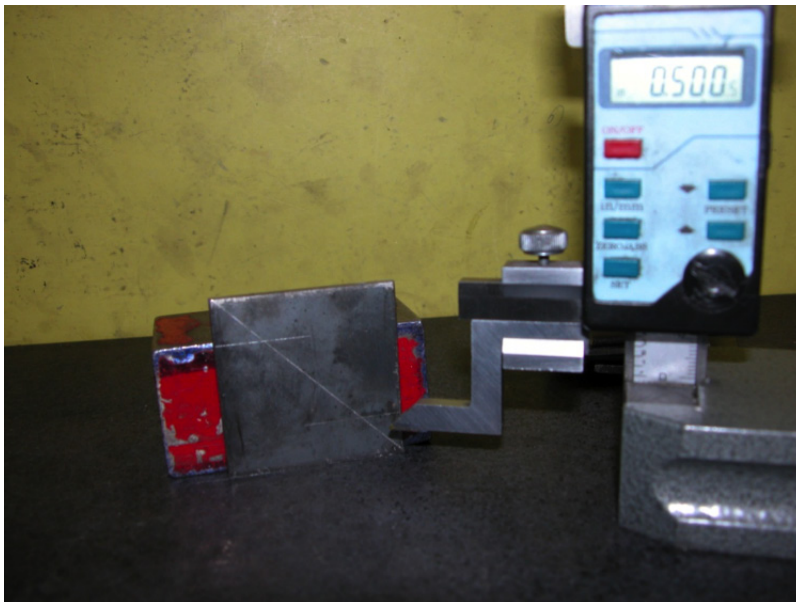

Figure 2—Scribing for #2
- b. For #2, scribe a line from one corner to the diagonal corner. Then from the marked corners, make a line ½" from each corner along the line (Figure 2). Then centre-punch the two intersections.